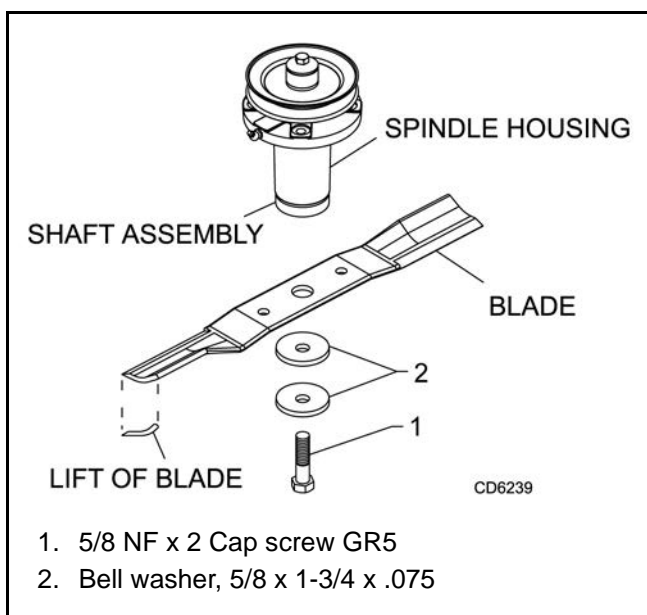

Figure 11. Blade and Spindle Assembly
1. Remove bolt (1), Figure 11, which has right hand threads.
■ When installing blade, the lift of the blade must be toward the spindle blade housing as shown in Figure 11. Torque bolt (1) into shaft assembly to 100 lbs-ft.